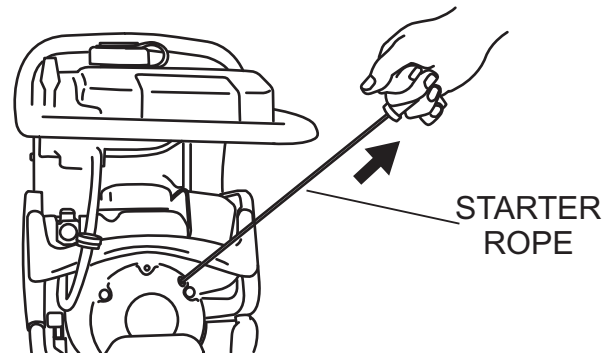

Figure 7. Recoil Starter
4. Grip the starter rope handle (Figure 7 handle and pull it until you feel a slight resistance. Then pull sharply and quickly. Return the handle to the starter case before releasing.